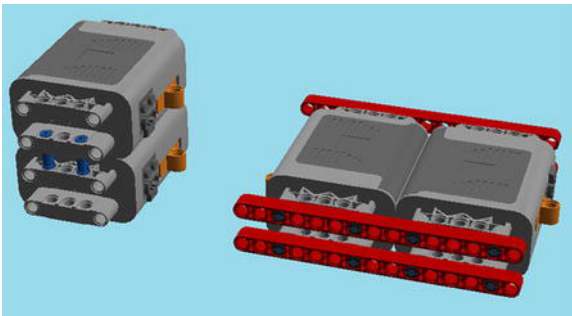

Figure 4-13. If you need to add a separate battery pack, they join together very efficiently.
■ **Note** If you plan on using a mega remote, you could max out your battery pack. Before you go into overload protection, I recommend adding another battery box to your LEGO creation. This might look sort of clumsy, but it really only takes four Double Connector Pins to connect two together, as you can see in Figure 4-13.